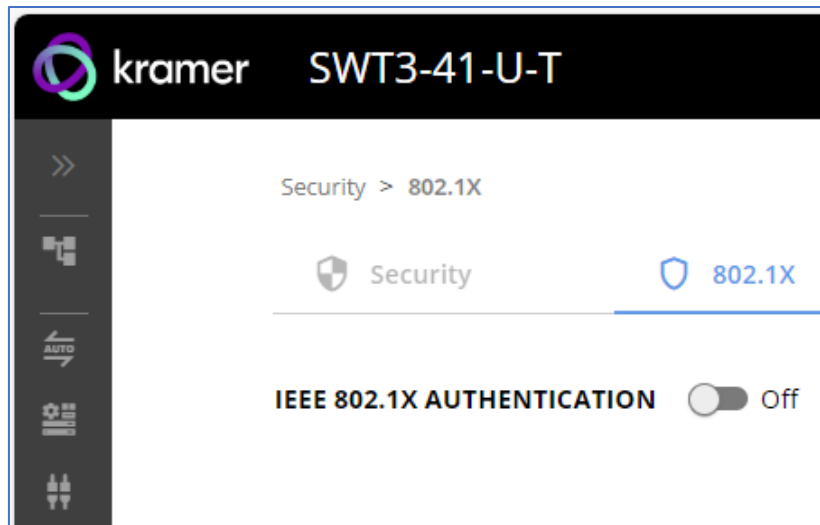

Figure 43: 802.1X Tab
2. Select **802.1X** tab. The 802.1X settings tab appears (see Figure 43).